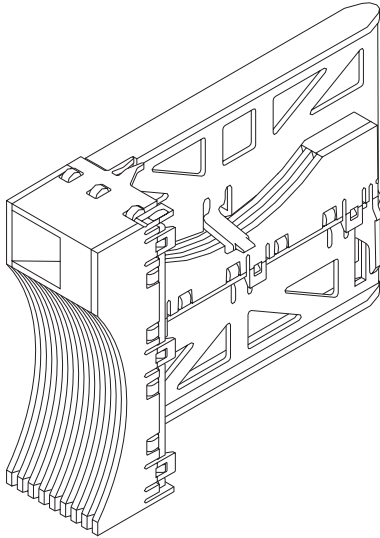

Figure 18. Dummy Disk Drive Module
1. Identify the slot for the new disk drive module by using the configuration planning information for your system. A dummy disk drive module should be in the slot. Refer to Figure 18.